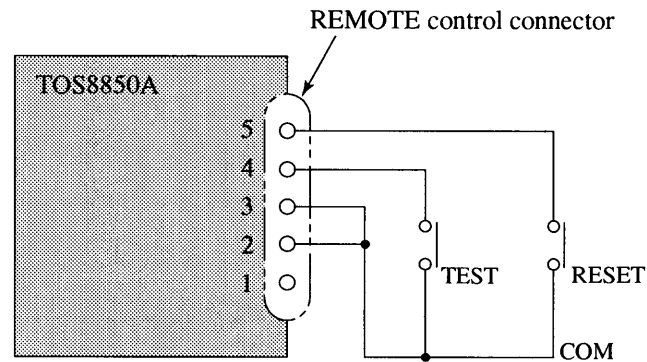
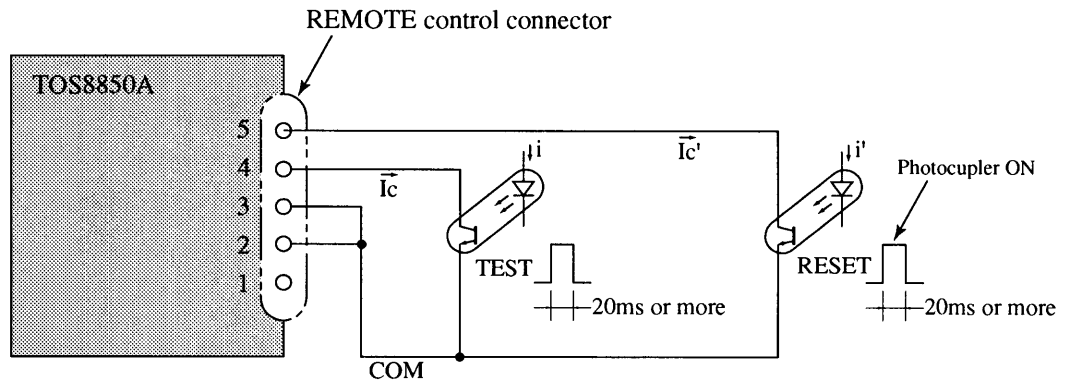

Fig. 4-2
Fig. 4-4
By controlling the TEST and RESET contacts shown in Figure 4-2, test voltage can be on-off controlled in the same manner as done at the Tester front panel.
Logical elements, transistors or photocouplers may be used instead of the switches in Figure 4-2.
The example is shown in Figure 4-4. The input conditions of the Tester for such operation are as follows:
- When using the CURRENT MONITOR terminals, isolate the common line (line COM in Figure 4-4) of the control circuit from the power line and ground line of the Tester.
With a view to prevent erroneous operation which could be caused by noise, it is recommendable to use photocouplers as shown in Figure 4-4 or relays as shown in Figure 4-2. The Tester is designed with full attention so that it does not erroneously operate by noise. Pay attention so that the devices connected to the Tester do not erroneously operate by noise.